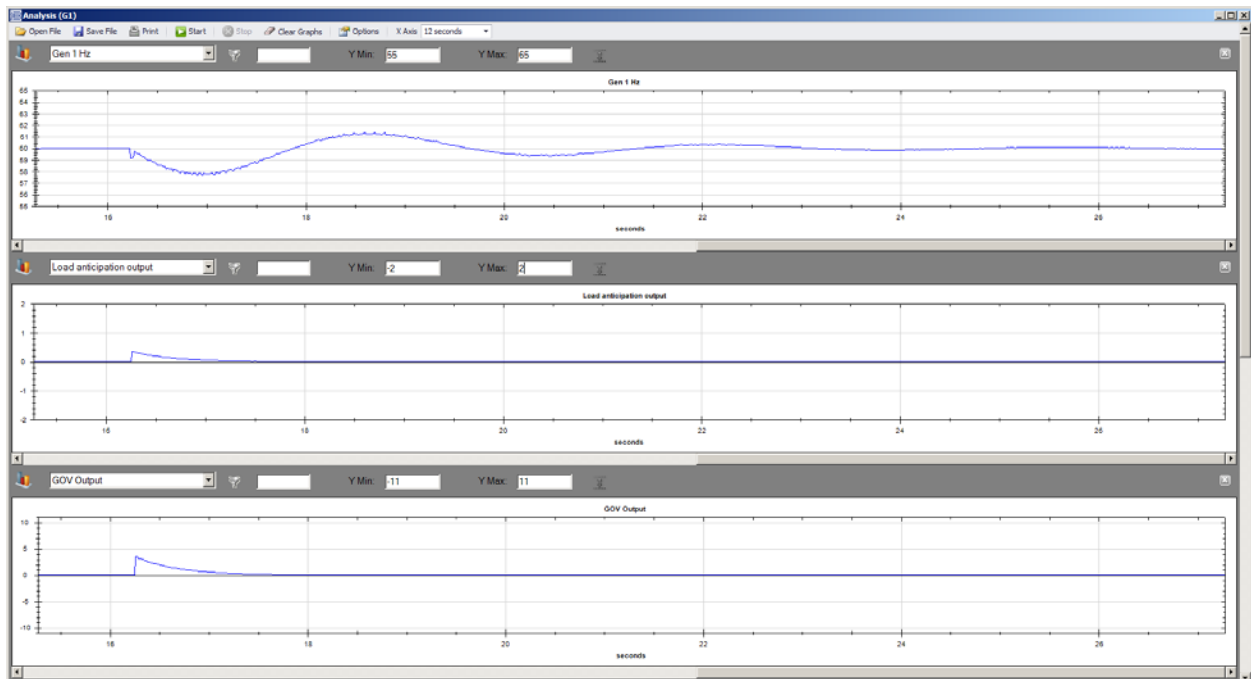
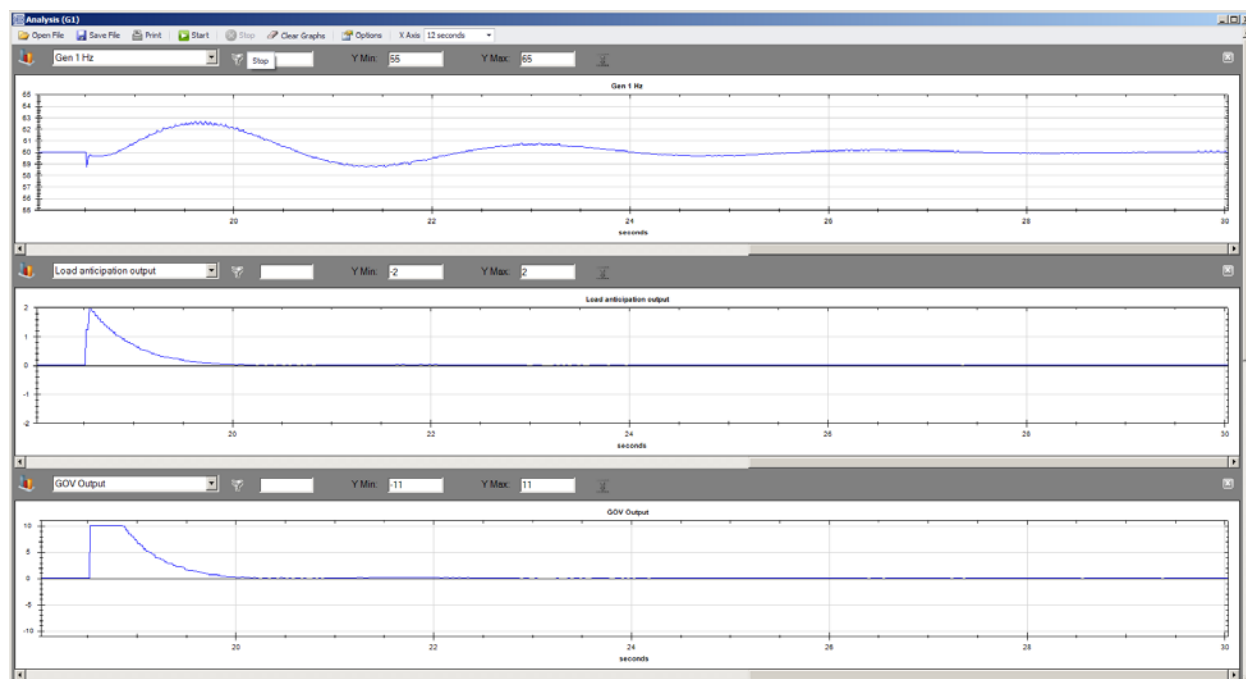
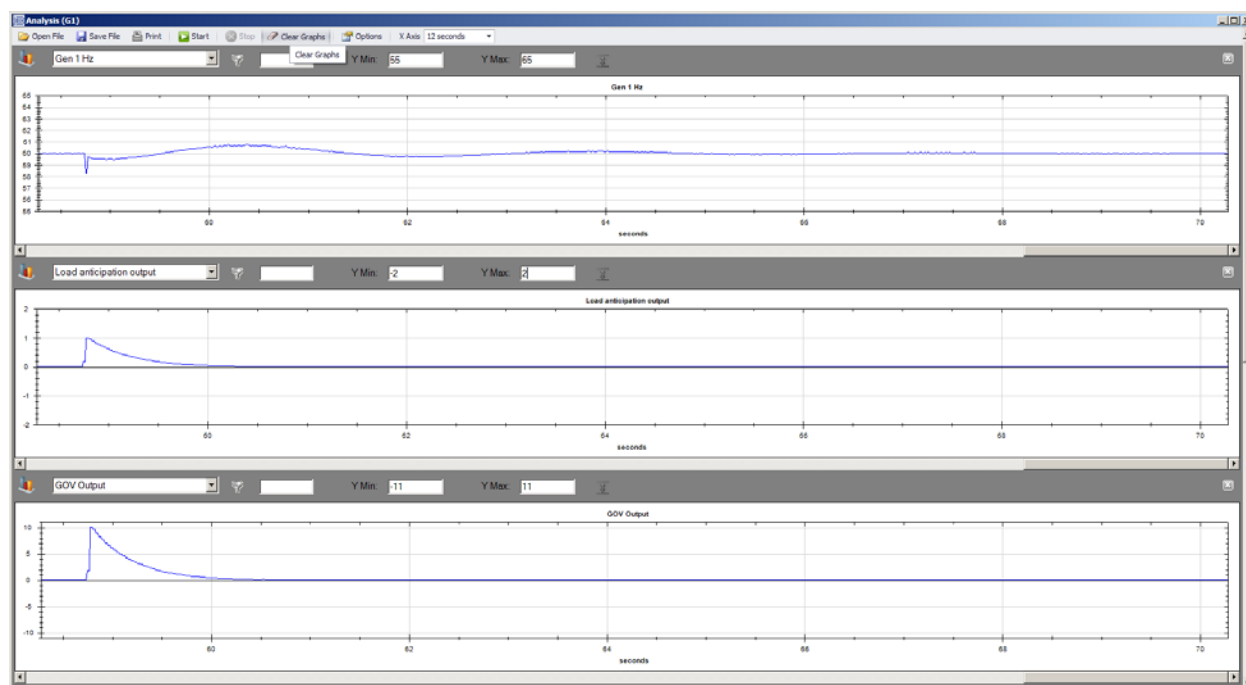
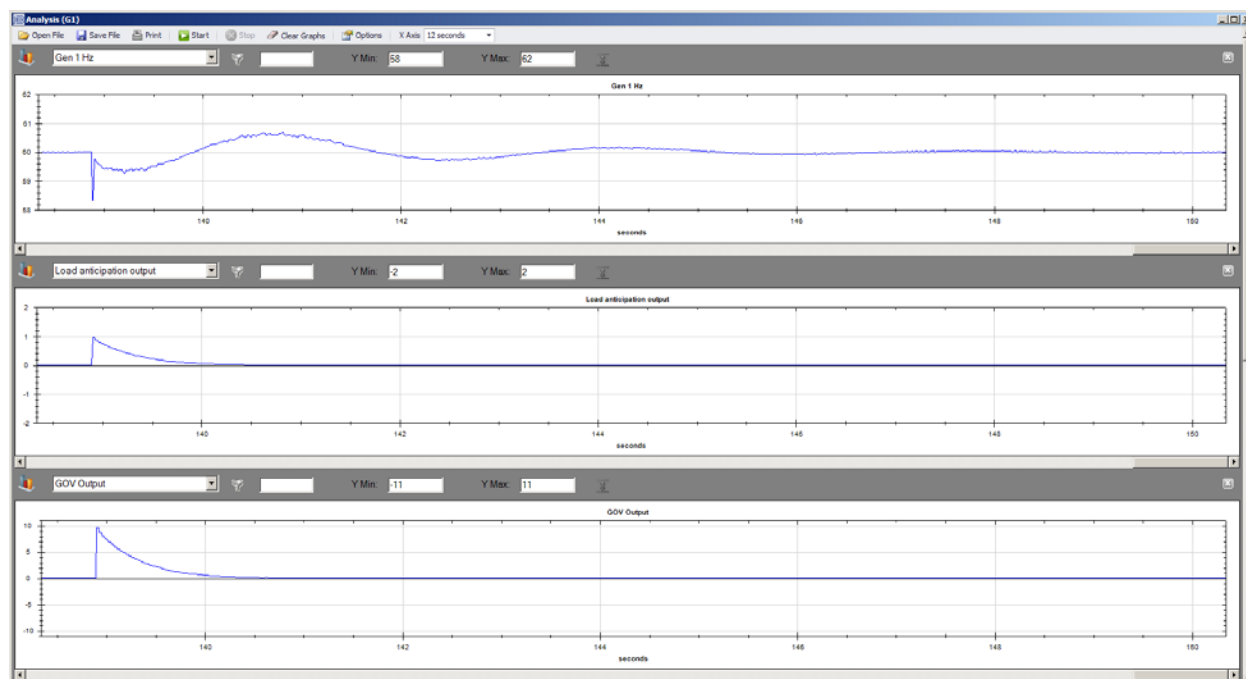

Figure 224. Kla Too Low – Frequency Recovery Improved with ~2 Hz Deviation
Figure 225. K_{la} Gain Too High, GOV Output Saturated, Frequency Overshoots on Recovery.
Figure 226. Load Anticipation Output Clipped.
Figure 227. Good Response. < 0.5Hz Deviation on Load Application with Minimal Overshoot.
4. Set the Analysis screen to plot Gen Hz, Load Anticipation Output, and GOV Output. Apply load and measure output frequency response. Increase Kla Gain, apply load, and measure output frequency response again. Repeat until output frequency response improves upon load application. If frequency overshoots on recovery, reduce Kla Gain. If GOV Output begins clipping, do not increase Kla Gain much further. If Load Anticipation Output begins clipping, but GOV Output is not clipping, increase Min/Max limit. Figure 224 illustrates the plot with a Kla Gain that is too low. Frequency recovery has improved, but it still has approximately 2 Hz deviation. Figure 225 illustrates the plot with a Kla Gain that is too high which causes the GOV Output signal to clip and frequency overshoot to be too high. Figure 226 illustrates the plot with a clipped Load Anticipation Output signal. Increase Max and Min Limits. Figure 227 illustrates the plot with a good response with less than 0.5 Hz deviation on load application with minimum overshoot.